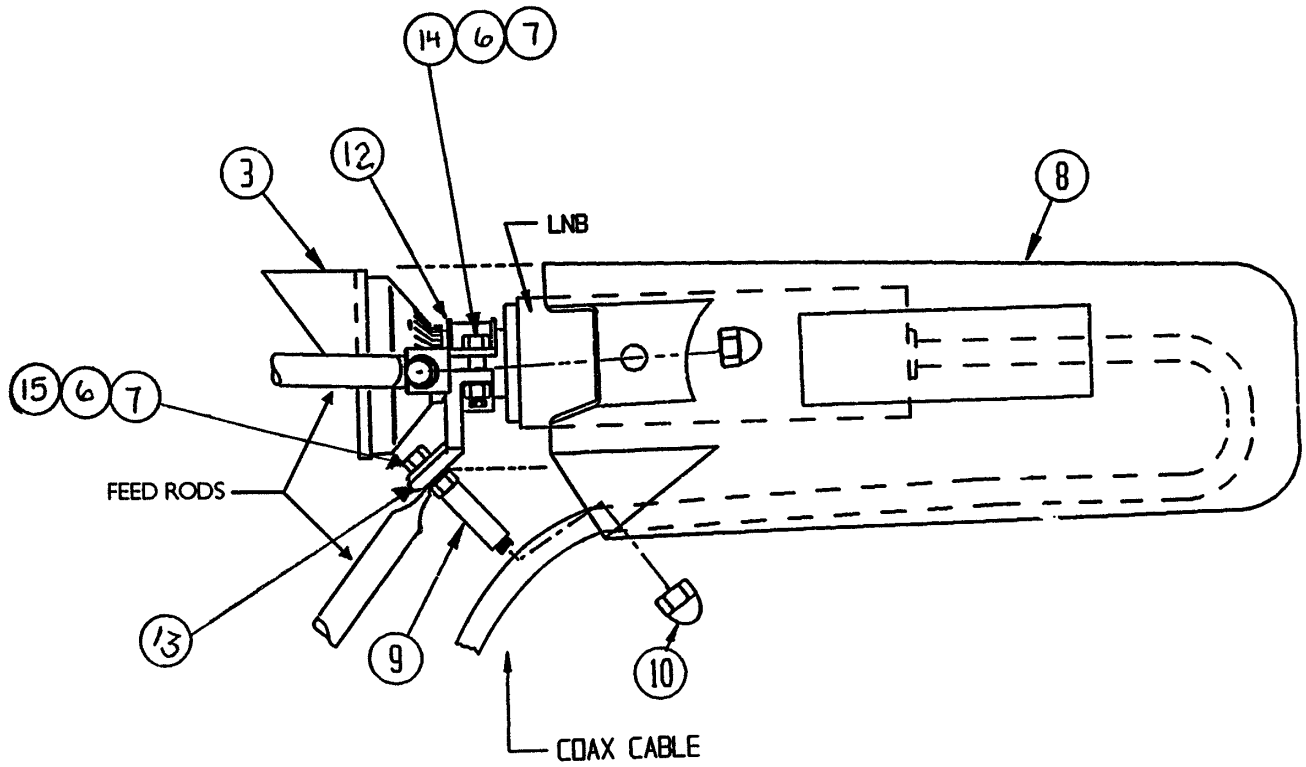

Figure 2.2-2
- Step 2:** Attach the feed mounting bracket (item #13) to the ends of the feed rods with 1/2-20 x .75" bolt, lock washer, and hex nut. (Item #14,6,7) as shown in figure 2.2-2. Tighten all feed support hardware now to 5 ft/lb.
- Step 4:** Place the feed assembly into the feed mounting bracket and secure by placing the top feed clamp (item #12) over the feed horn and secure with 1/4-20 bolts, lock washers, and hex nuts as shown in figure 2.2-2.
- Step 5:** After final polarization adjustment is made, place spacer (item #9) on lower feedrod bolt and fit cover (item #8) over feed assembly and attach with three [3] 1/4" acorn nuts (item# 10) and spacer (item #9) as shown in figure 2.2-2. Cable should be secured to lower feed rod.